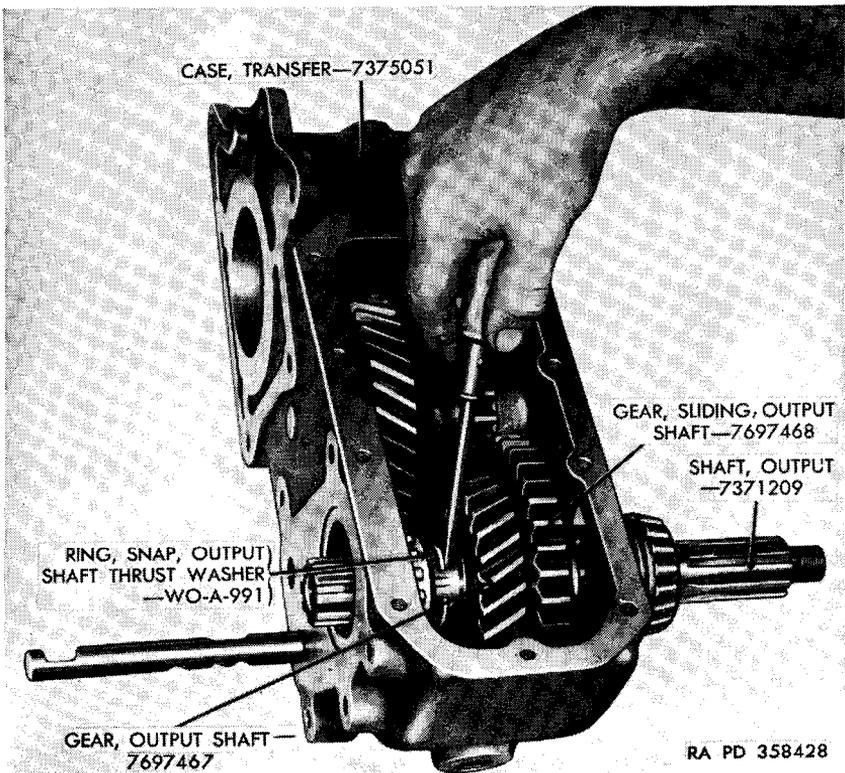

Figure 37. Removing output shaft thrust washer snap ring.
f. *Remove Output Shaft* (fig. 34). Using remover 41-R-2368-200 (fig. 36), force the output shaft bearing cone (Q) from its seat on the output shaft (P). Remove the output shaft thrust washer snap ring (J) from the groove in the output shaft (fig. 37). Pull the output shaft out from the rear of the case. Remove the output shaft thrust washer (K), output shaft gear (L), and the output shaft sliding gear (M) from the case. The countershaft gear (E), countershaft bearings (Y), and countershaft gear thrust washers (F and X) can now be lifted from the case.